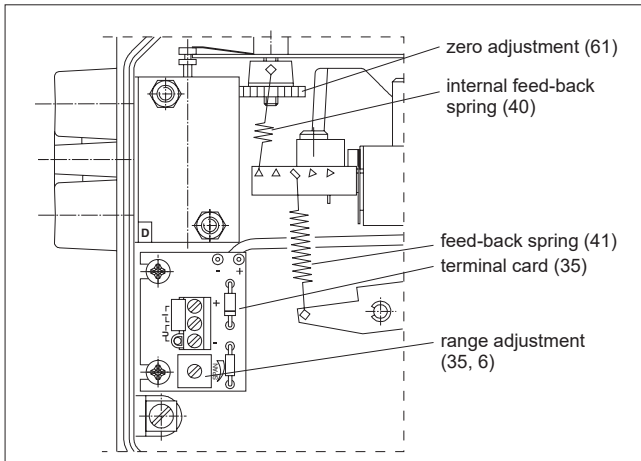

Fig. 12. Zero and range adjustments
1. Switch on the supply pressure (S) and the input signal (+/-).
3. Set the input signal at the closed limit of the valve so that it is 2 % i.e. 0.3 mA higher or lower than the limit value, e.g.  $4 + 0.3 = 4.3$  mA or  $20 - 0.3 = 19.7$  mA. Turn the zero adjustment nut (61) with a screwdriver or fingers so that the actuator comes slowly to the closed limit. The valve should open slightly with a 4 % change in signal, that is 0.6 mA, e.g.  $4 + 0.6 = 4.6$  mA or  $20 - 0.6 = 19.4$  mA. See Figures 12 and 13.
7. Screw on the pointer (32) into place so that the yellow line is in the direction of the valve closing member. Tighten the screw (57).